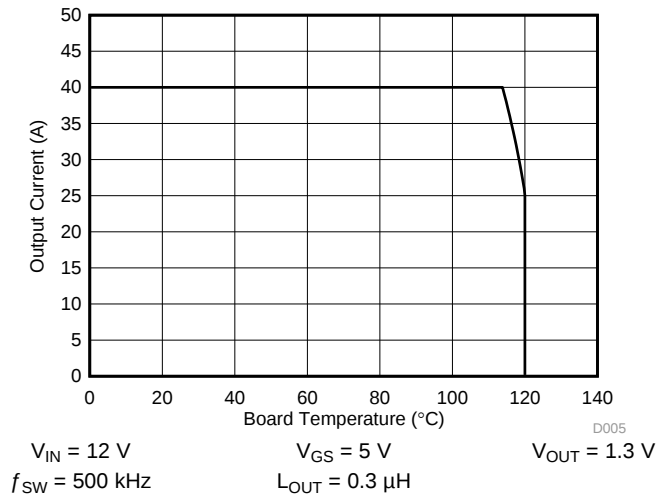

Figure 3. Typical Safe Operating Area (SOA)
$T_J = 125^\circ\text{C}$, unless stated otherwise. The typical power block system characteristic curves and Figure 3 are based on measurements made on a PCB design with dimensions of 4 in (W) $\times$ 3.5 in (L) $\times$ 0.062 in (H) and 6 copper layers of 1-oz copper thickness. See Application and Implementation section for detailed explanation.
The SOA curves in the CSD86356Q5D data sheet provides guidance on the temperature boundaries within an operating system by incorporating the thermal resistance and system power loss. Figure 3 outline the temperature and airflow conditions required for a given load current. The area under the curve dictates the safe operating area. All the curves are based on measurements made on a PCB design with dimensions of 4 in (W) $\times$ 3.5 in (L) $\times$ 0.062 in (T) and 6 copper layers of 1-oz copper thickness.